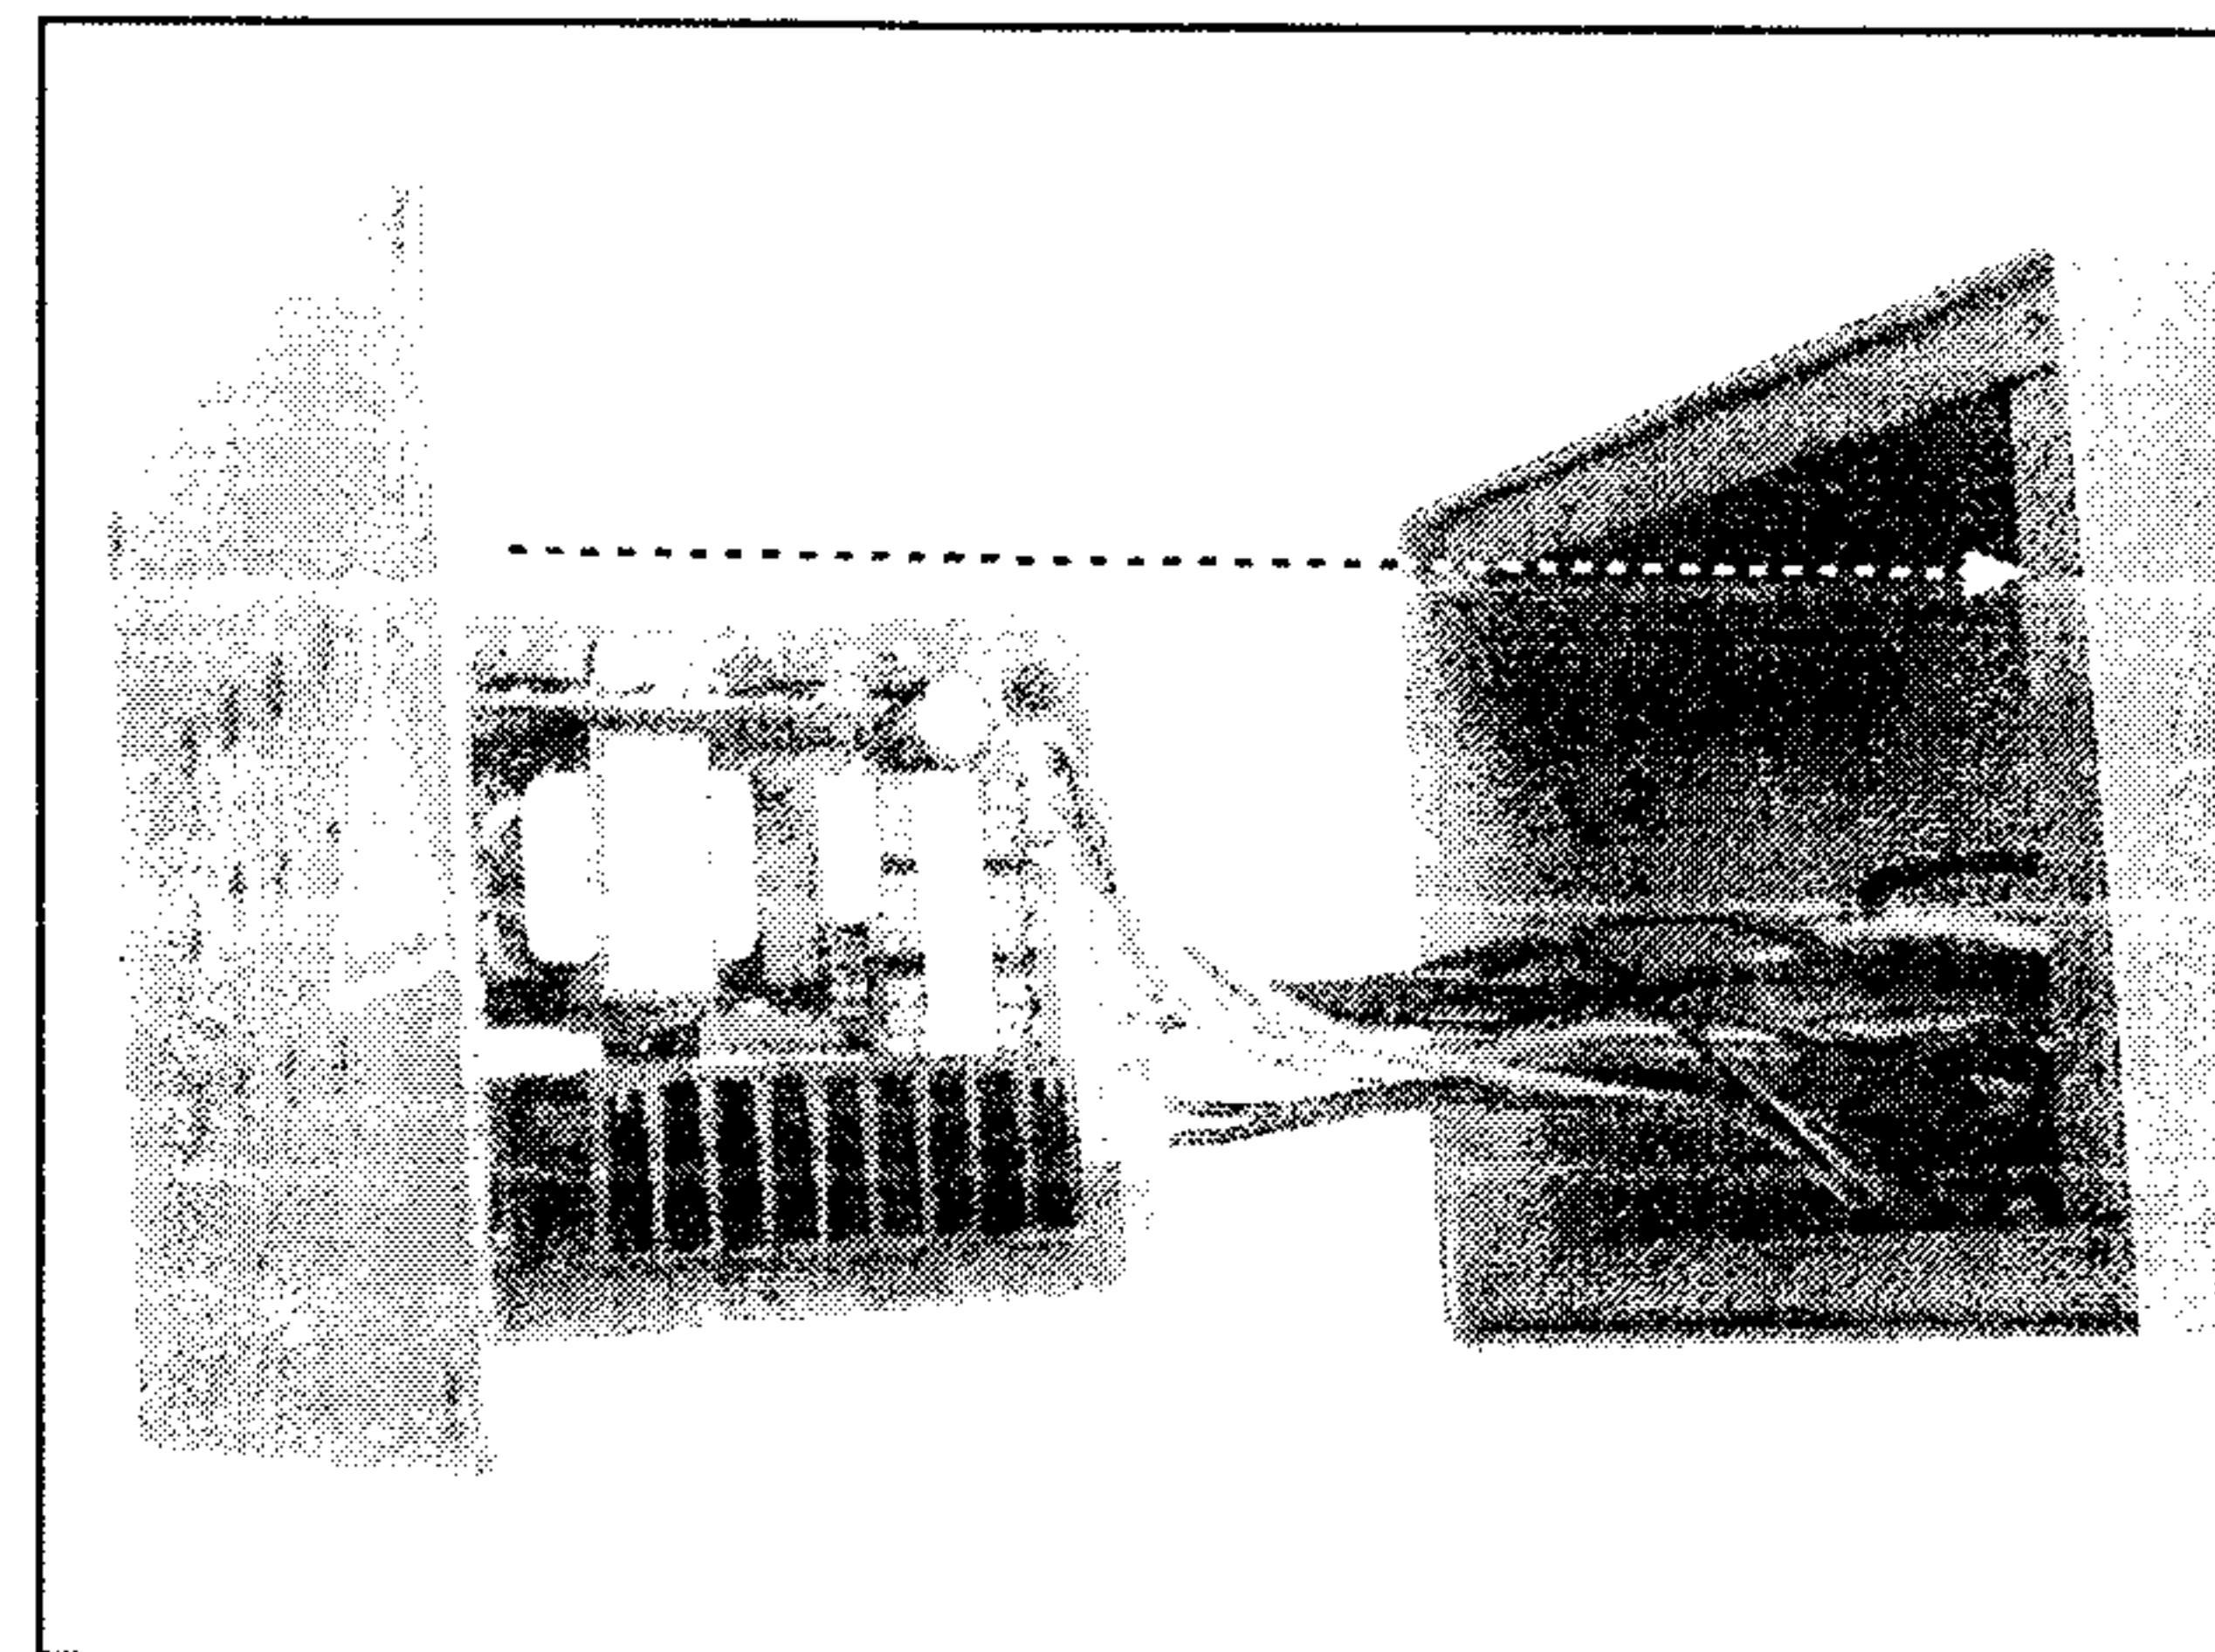

Figure 14. Circuit board installation.
21. Carefully slide the circuit board and vent cover back into the power feed housing (Figure 14), but do not install the four mounting screws at this time.